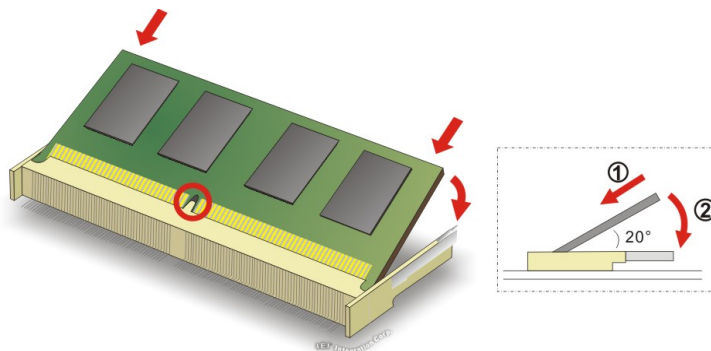

Figure 5-2: SO-DIMM Installation
- Step 7:** Install the new DDR4 memory module by pushing it into the socket at a 20° angle (**Figure 5-2**).
- Step 8:** Gently push the memory module downwards and the arms clip into place (**Figure 5-2**).